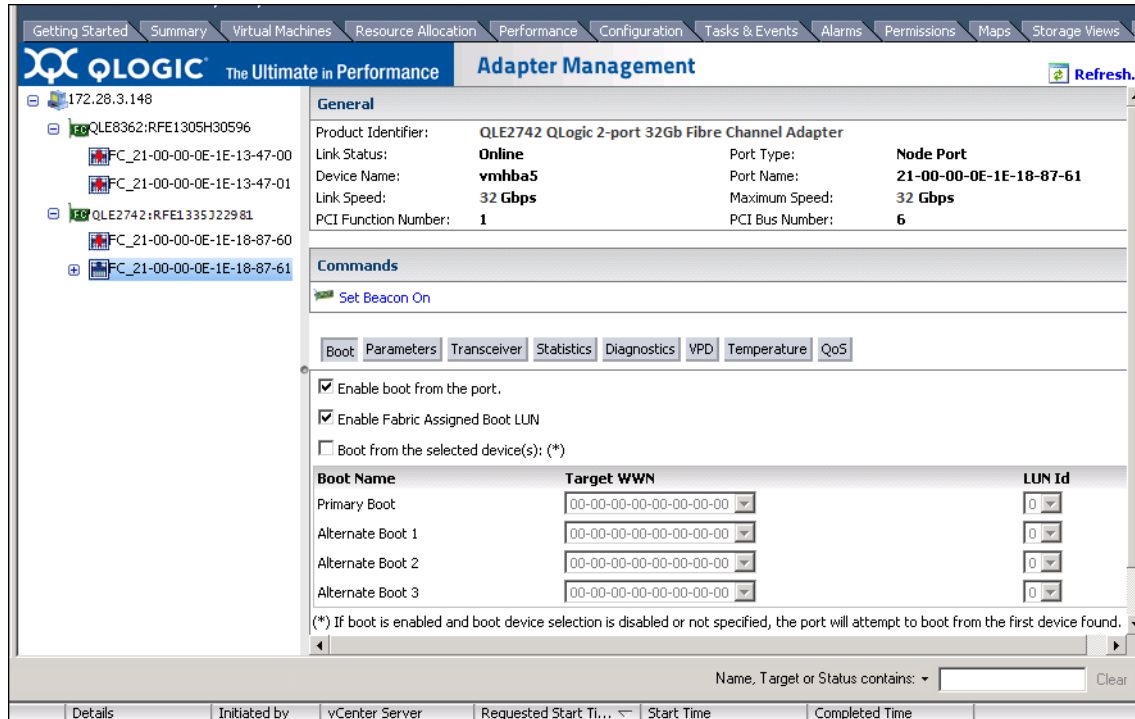

Figure 3-8. Fabric-Assigned Boot LUN in QConvergeConsole Plug-in for VMware vCenter Server
4. On the Boot page, select the **Enable Fabric Assigned Boot LUN** check box. Figure 3-8 shows an example.